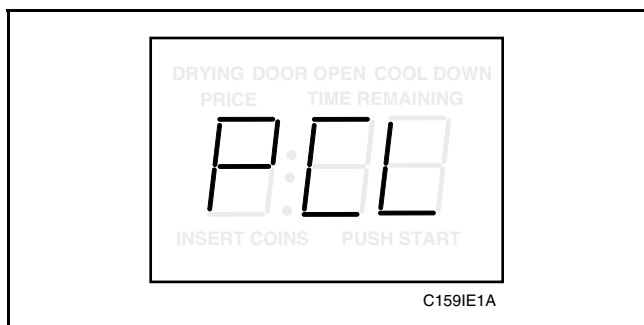

Figure 47
- Press the LOW TEMP (+) pad **or** the NO HEAT (-) pad to scroll through the programmable options until “PCL” appears in the VFD, *Figure 47*.